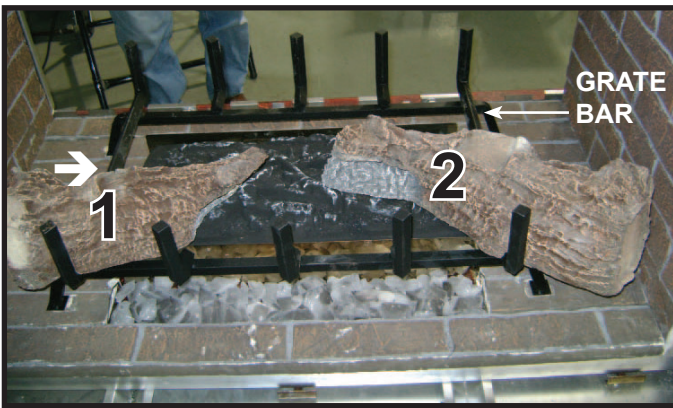

Figure 6.
**LOG NUMBER 2 (SRV2146-702):** Place Log #2 as shown. The groove on the bottom of Log #2 engages with the grate bar. Pull log forward so it engages the far right grate tine as shown in Figure 6. The “burnt” end of the log rests on the burner. The log must **NOT** block any burner ports.